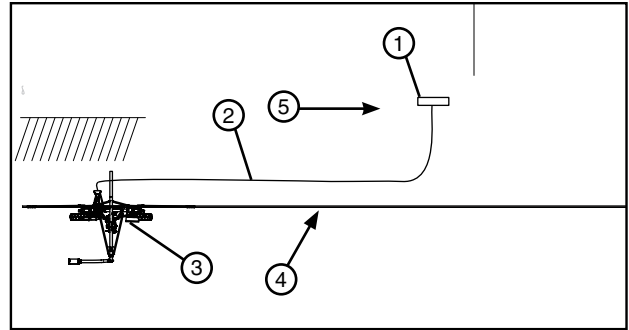

Figure 71-1 1. Power Pedestal
- (b) Position the electric cord between the cart and power pedestal so that it does not interfere with the furrow guidance arms if applicable. See figure 71-1.